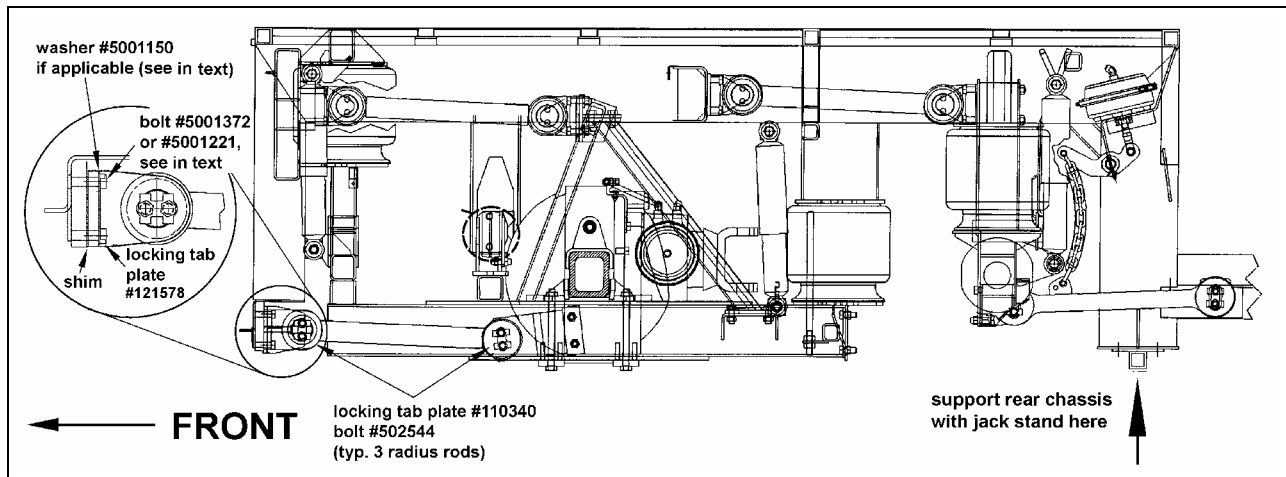

FIGURE 6: REAR SUSPENSION
2. Using a jack stand each side of vehicle, support rear chassis. See figure 6 for proper positioning of jack stands.
10. Reinstall the supports (figure 6). Do not forget to reinstall the shims correctly.